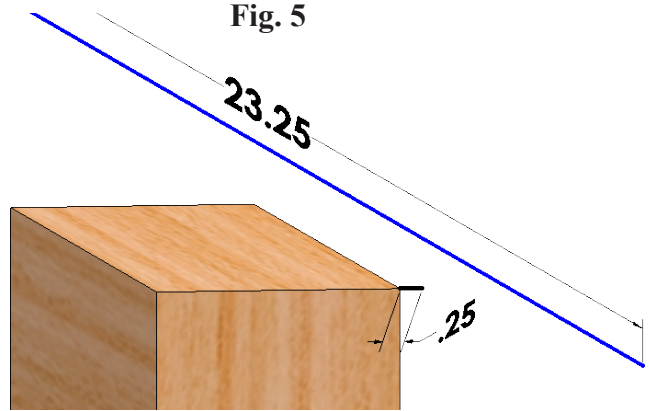

Fig. 6
Step 15. Click **Smart Dimension**  (S) on the Sketch toolbar.
Step 16. Dimension line **23.25**, **Fig. 6**.